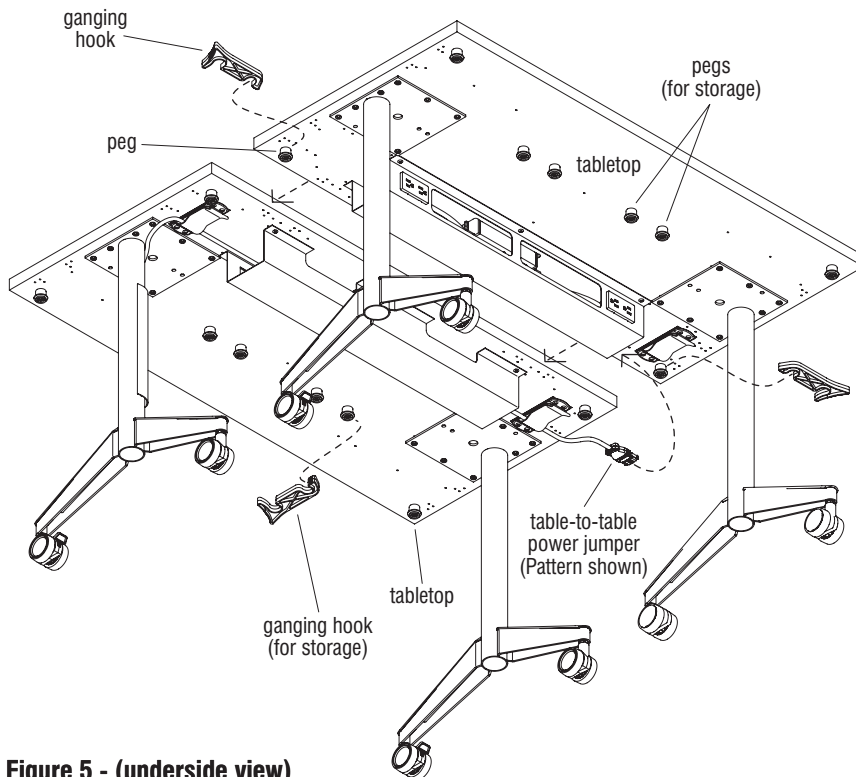

Figure 5 - (underside view)
1. Move the two tables to be ganged together back-to-back, such that the two pair of ganging pegs face each other. As illustrated, position and snap the two ganging hooks onto their respective ganging pegs, then swing the hooks to the opposite peg to securely gang tables together (Figure 5 & Detail C).
2. Position and snap any extra pegs onto the pegs for storage on the front user side of the table. For ganging hook storage when tables are not paired, disconnect the table edge ganging hooks and move them to the pegs mounted to the front user side of the table (Figure 5).
3. Once mechanically joined together securely, tables with Pattern electrical systems may now have their table-to-table connections made. If the tables are using Pattern, route the Pattern table-to-table power jumper from one table over to the second. Connect the male end of the jumper to the closest Pattern power distribution block. Repeat step 3 to make the remaining power connections for the remaining tables (Figure 5).
4. Strap in the desired cords using the installed Velcro wire manager (Figure 5).